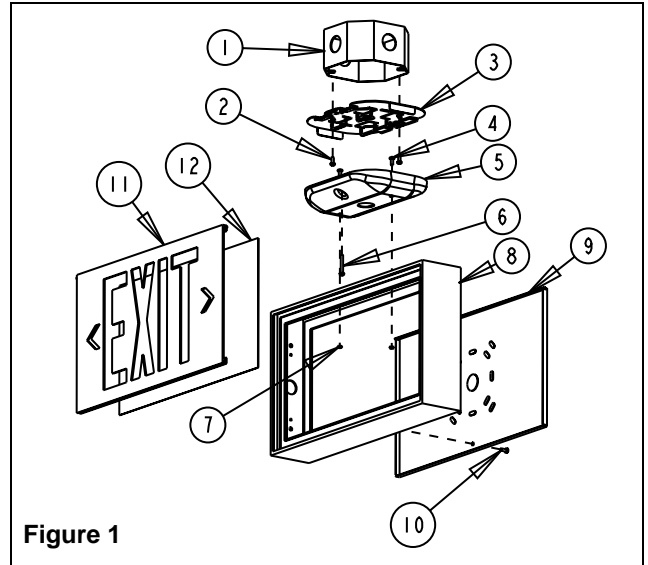

Figure 1
- e. Fasten the canopy to the exit using #8-32 Short screws and keps nuts provided (see fig. 1).